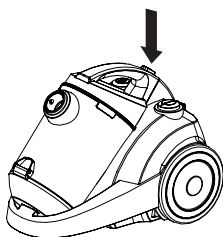

Figure 9
3. Remove the dust receptacle by pressing the release button on the dust receptacle (see figure 9) and pulling on the receptacle, and hold it above a waste-bin.